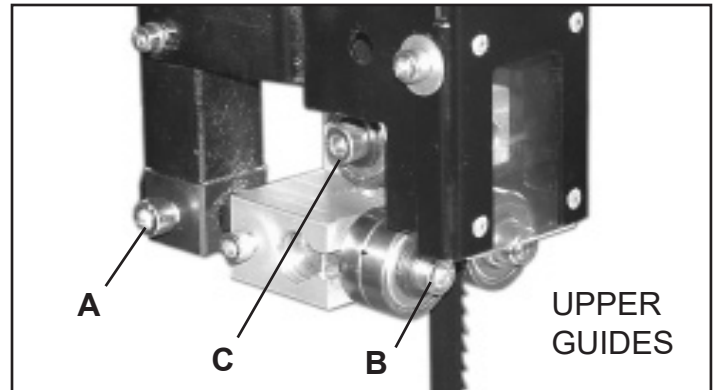

FIG. 21
1. Position the roller guides relative to the blade by loosening the locking hex screw (#42C, FIG. 21, A) and moving the guide carrier until the roller guides are approximately 1/16" behind the gullets of the bandsaw blade, then tighten the hex nut to set the bearings in place.